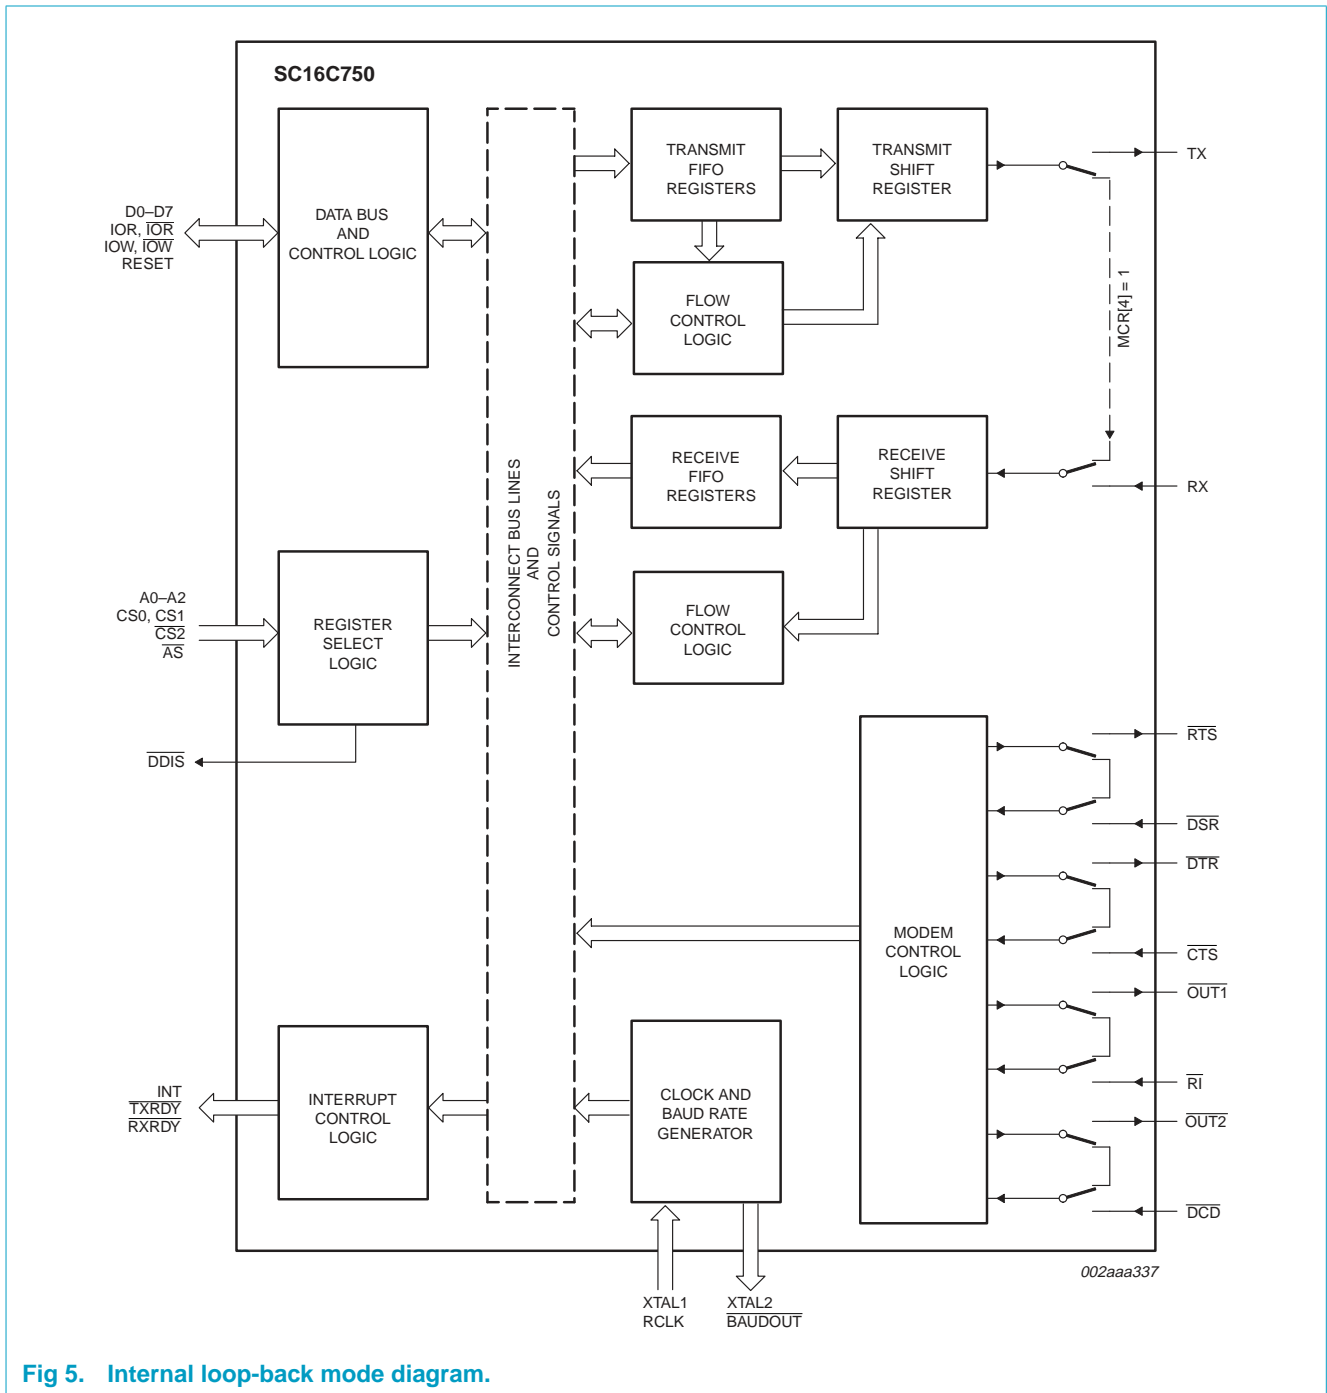

Fig 5. Internal loop-back mode diagram.
The internal loop-back capability allows on-board diagnostics. In the loop-back mode, the normal modem interface pins are disconnected and reconfigured for loop-back internally. MCR[0-3] register bits are used for controlling loop-back diagnostic testing. In the loop-back mode, OUT1 and OUT2 in the MCR register (bits 2-3) control the modem \overline{RI} and \overline{DCD} inputs, respectively. MCR signals \overline{DTR} and \overline{RTS} (bits 0-1) are used to control the modem CTS and \overline{DSR} inputs, respectively. The transmitter output (TX) and the receiver input (RX) are disconnected from their associated interface pins, and instead are connected together internally (see Figure 5). The CTS, \overline{DSR} , \overline{DCD} , and \overline{RI} are disconnected from their normal modem control input pins, and instead are connected internally to \overline{DTR} , \overline{RTS} , OUT1 and OUT2. Loop-back test data is entered into the transmit holding register via the user data bus interface, D0-D7. The transmit UART serializes the data and passes the serial data to the receive UART via the internal loop-back connection. The receive UART converts the serial data back into parallel data that is then made available at the user data interface D0-D7. The user optionally compares the received data to the initial transmitted data for verifying error-free operation of the UART TX/RX circuits.